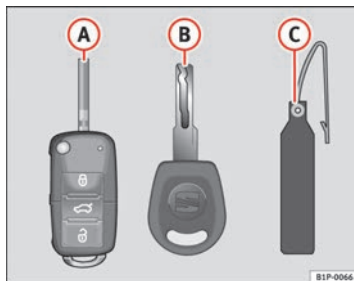

Fig. 61 Set of keys
- one remote control key ⇒ Fig. 61 (A) with folding key bit,
- one key without remote control (B),
- a plastic key tab* (C).